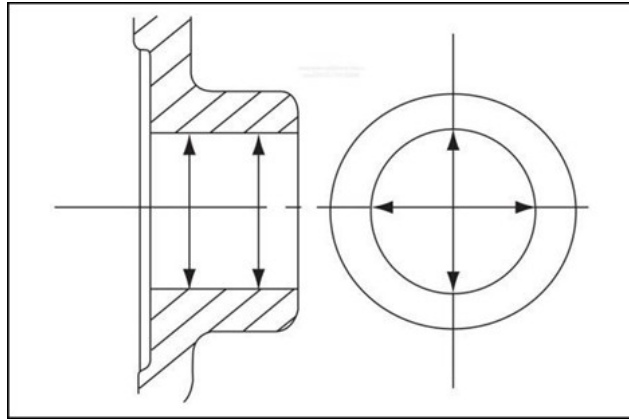

Figure 120.
5. Subtract the piston measurement from the greatest measurement acquired during cylinder inspection to obtain piston-to-cylinder clearance. Record the Measurement. Measure the diameter of the piston pin bore on both sides of the piston (Figure 120). See the mechanical specifications chart. Record the measurements.